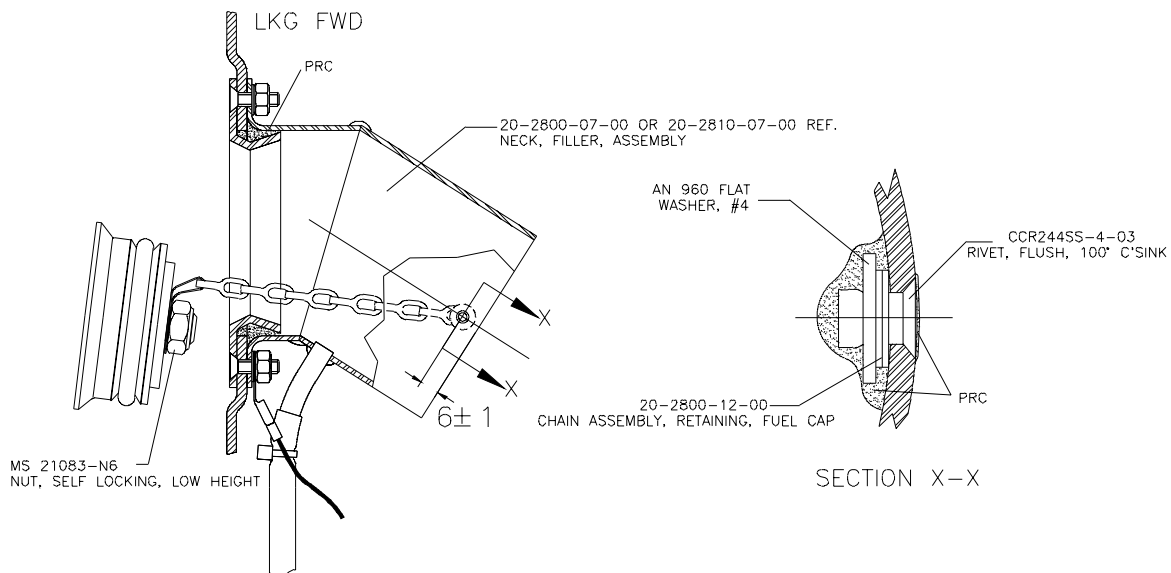

FIGURE 1.
- 10.2.1 On the aft side of the filler neck (i.e. closest to the B-Bulkhead) drill a .125" / .129" hole in the filler neck shown in Figure 1.